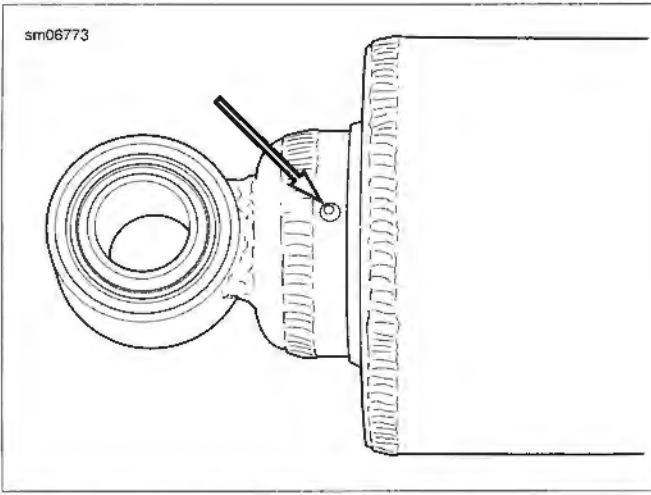

Figure 2-86. Center Punch/Drill Hole Location
2. See Figure 2-86. Center punch the reservoir between the weld and the reservoir can.